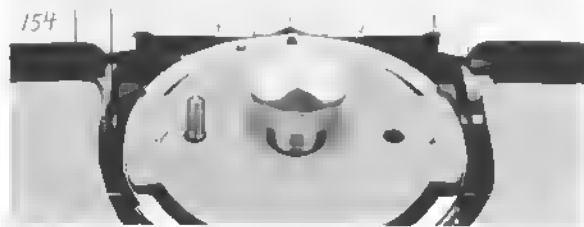

Figure 71
- Align point of ribbon shield with any rule (Figure 71). Roll feed rolls up and down about 4 inches, watching relationship of line to point of shield while rolling. If line moves diagonally (appears to wave) adjust paper and re-test until line follows point of shield. Use other hand to take up play in paper by winding wooden roller in opposite direction of feed rolls. This prevents creasing the paper.